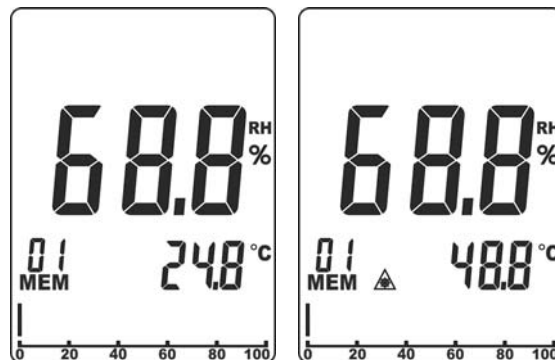

Fig. 10: Infrared temperature measurement (IRT)
3. Air temperature is shown on the secondary display (see Fig. 10 – left side).
4. Press key **IRT/▲** to activate IRT measurement. The laser pointer activates for a moment and symbol “▲” appears on the display until measurement is completed. The value of IRT temperature is shown on the secondary display for approx. 15s (see Fig. 10 – right side) and, subsequently, the instrument automatically goes back to air temperature measurement.